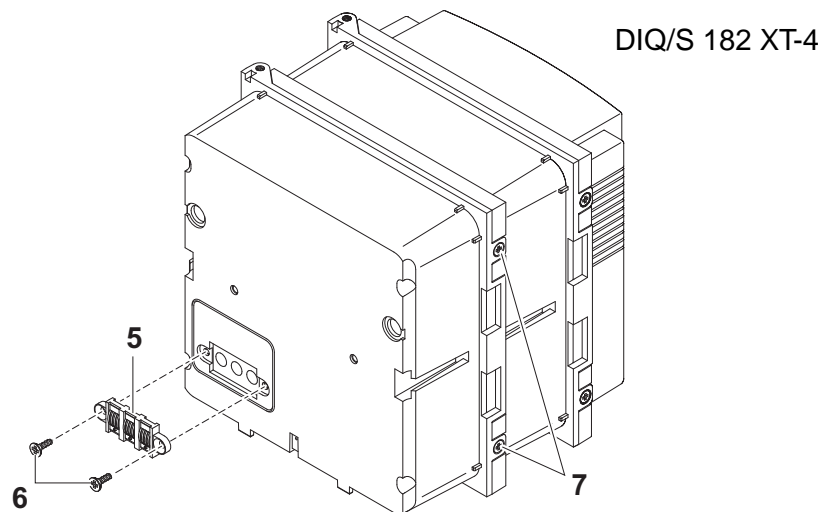

Fig. 3-3 Mounting the contact base (variant 1)
| 4 | Fix the contact base (pos. 5 in Fig. 3-3) onto the DIQ/S 182-XT-4 with the two plastic self-tapping screws (pos. 6). |
| 5 | Remove the two countersunk screws (pos. 7 in Fig. 3-3) of the DIQ/S 182-XT-4 and swing open the lid.                 |